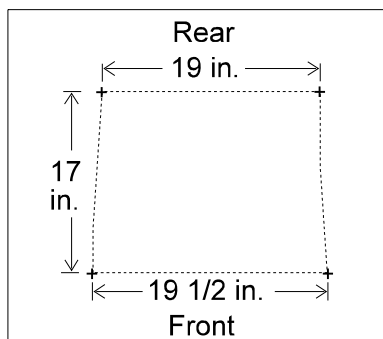

Figure 1: Base hold-down diagram
1. Set 3/8 inch floor anchors in the pattern indicated in Figure 1.